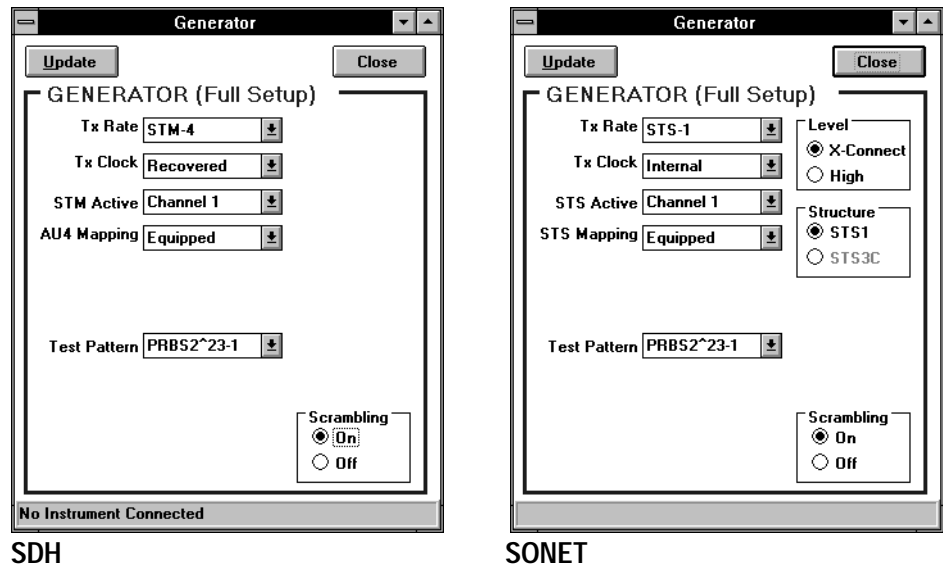

Figure 3–12: The Generator window
Click the **More** command button in the GENERATOR group to display the Generator window shown in Figure 3–12. The Generator window contains the full set of generator controls, including the drop-down lists found in the main window.
You can set some of the Generator transmit parameters from the main window or use the complete group of settings available in the **Generator** window shown in Figure 3–12.
1. Click on the **More** command button in the GENERATOR group to display the **Generator** window (see Figure 3–12).